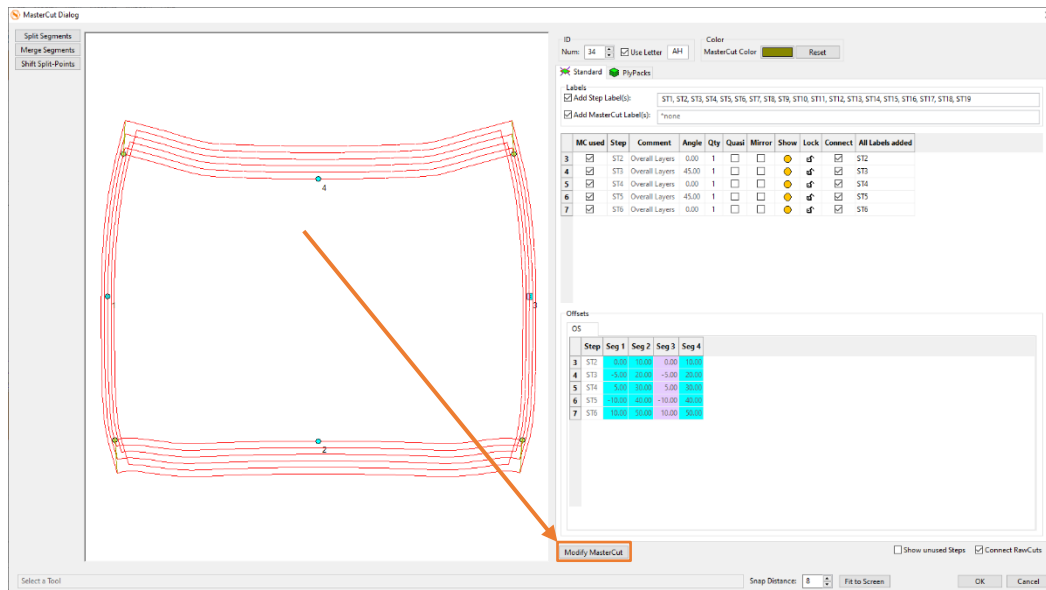

Figure 397
1. Enter the MasterCut Sketcher by clicking **Modify MasterCut** (Figure 397).